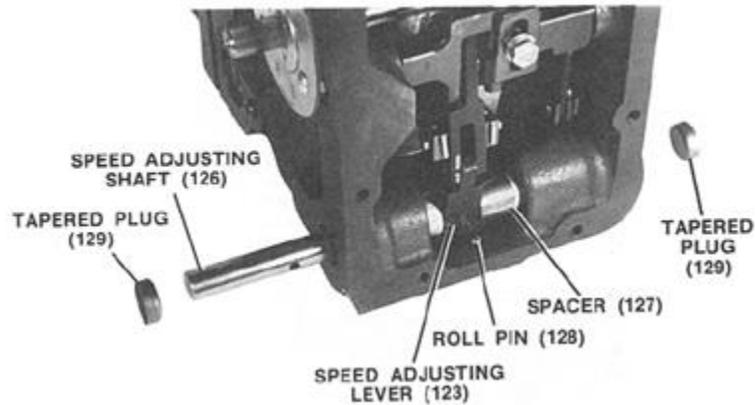

Figure 5-36. Speed Adjusting Shaft Assembly
32. Place speeder spring assembly (74) on top of ballhead assembly. Press down and twist the spring clockwise to seat the spring on spring seat (69).
33. Insert speed adjusting shaft (126) through case, through speed adjusting lever (123), spacer (127) and into hole on opposite side of case. Figure 5-36 shows an actuator equipped with a stub shaft. Stub shafts require tapered plugs as shown on each side of case. Keep 0.005 to 0.010 inch clearance between bushing (125) and speed adjusting lever (123), and bushing (125) and spacer (127).